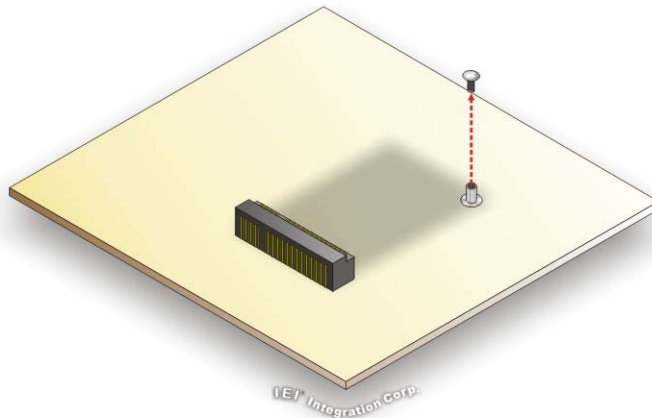

Figure 4-3: PCIe Mini Card Retention Screw Removal
Step 1: Locate the PCIe Mini card slot. Remove the preinstalled retention screw on the screw pillar of the PCIe Mini card slot as shown in (**Figure 4-3**).